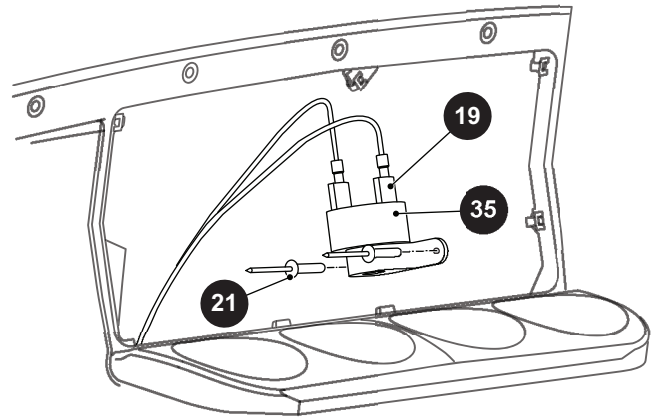

Fig. 14 Reverse Buzzer
3. Disconnect the push on connections (19) (Ref Fig. 14).
4. Drill out the rivets (21) securing the reverse buzzer (35) to the instrument panel.